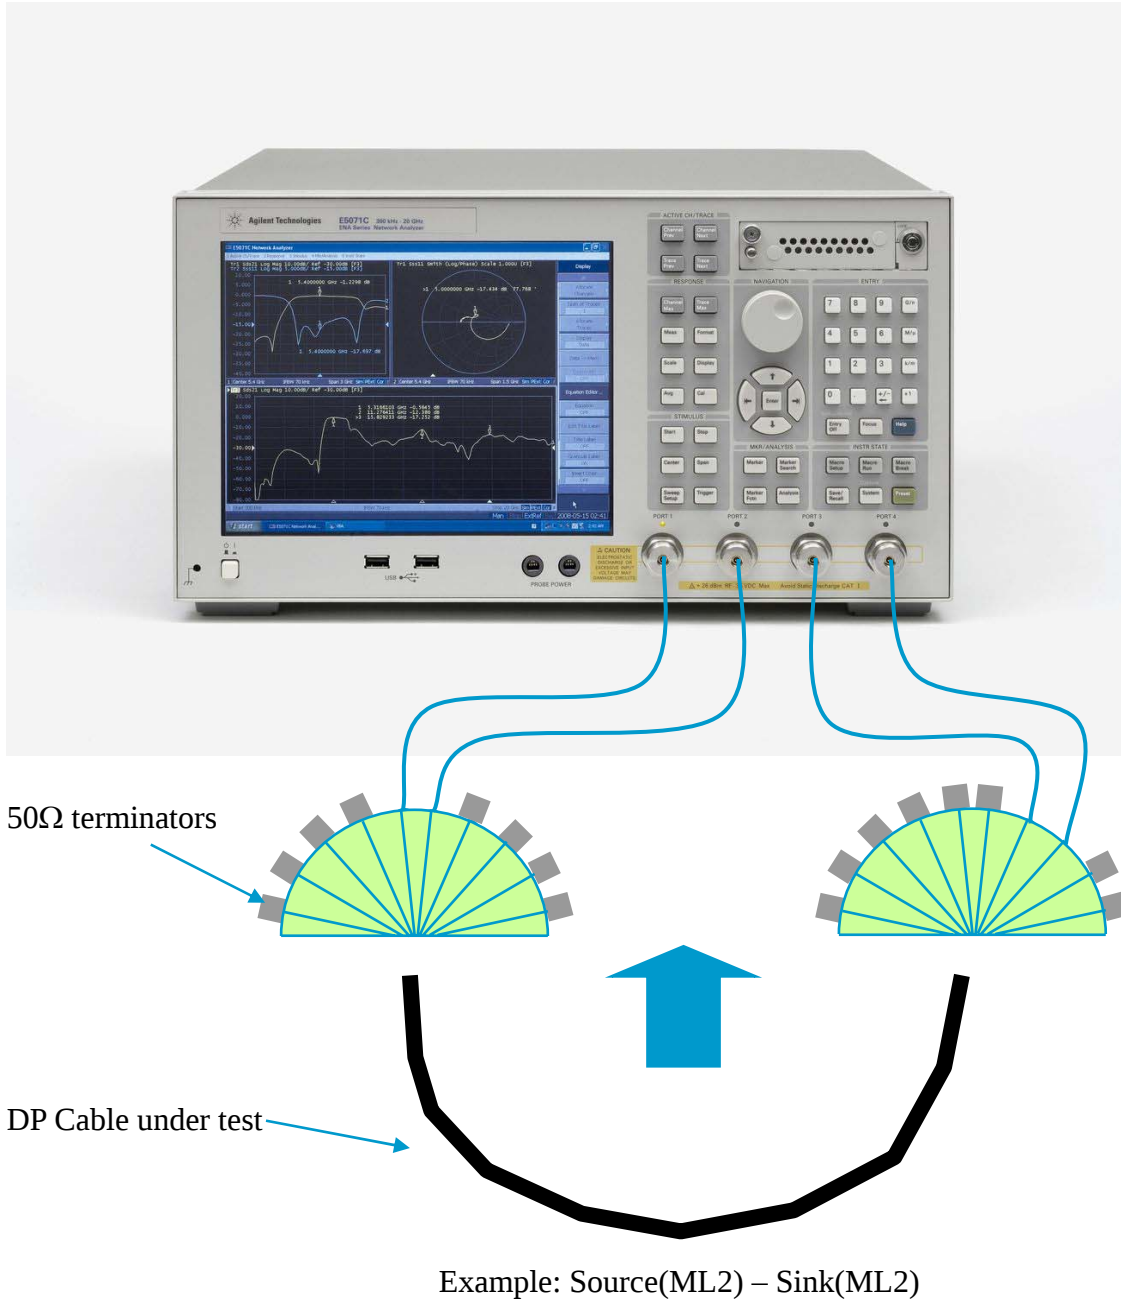

Figure 5.8.5 Connection Example for Inter-Pair Skew measurement
1. Connect the test fixture to the test port cables according to the **Figure 5.8.5**. Unused terminals should be terminated.